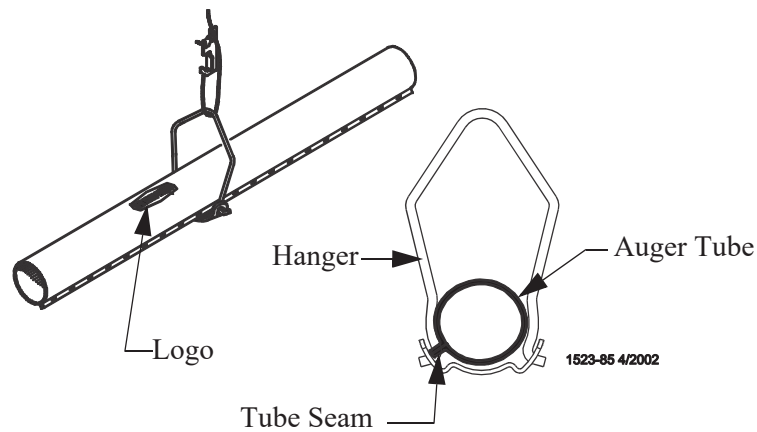

Figure 33. Hanger Installation
3. To achieve total feed drop out all along the system, the Chore-Time Logo should be centered at the crown of the tubes and all the Hangers should be installed as shown in **Figure 33**.